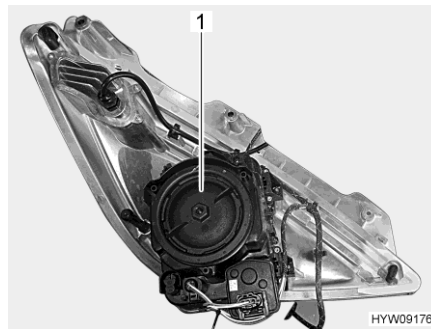

Fig. 235 Front headlight (rear side)
- Turn the housing cover (Fig. 235,1) in an anticlockwise direction and remove.
- Place the housing cover (Fig. 235,1) and tighten in a clockwise direction.